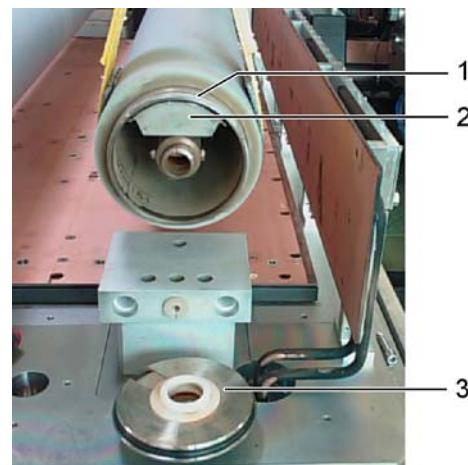

Fig. 7-18 End cap removed
- 17 Remove the end cap (3 in Fig. 7-18, Fig. 218).
- 18 Pull the magnet bar (2 in Fig. 7-18, Fig. 218) out of the cathode.
- 24** Remove the braces (1 in Fig. 7-18, 218) from both ends of the cathode.